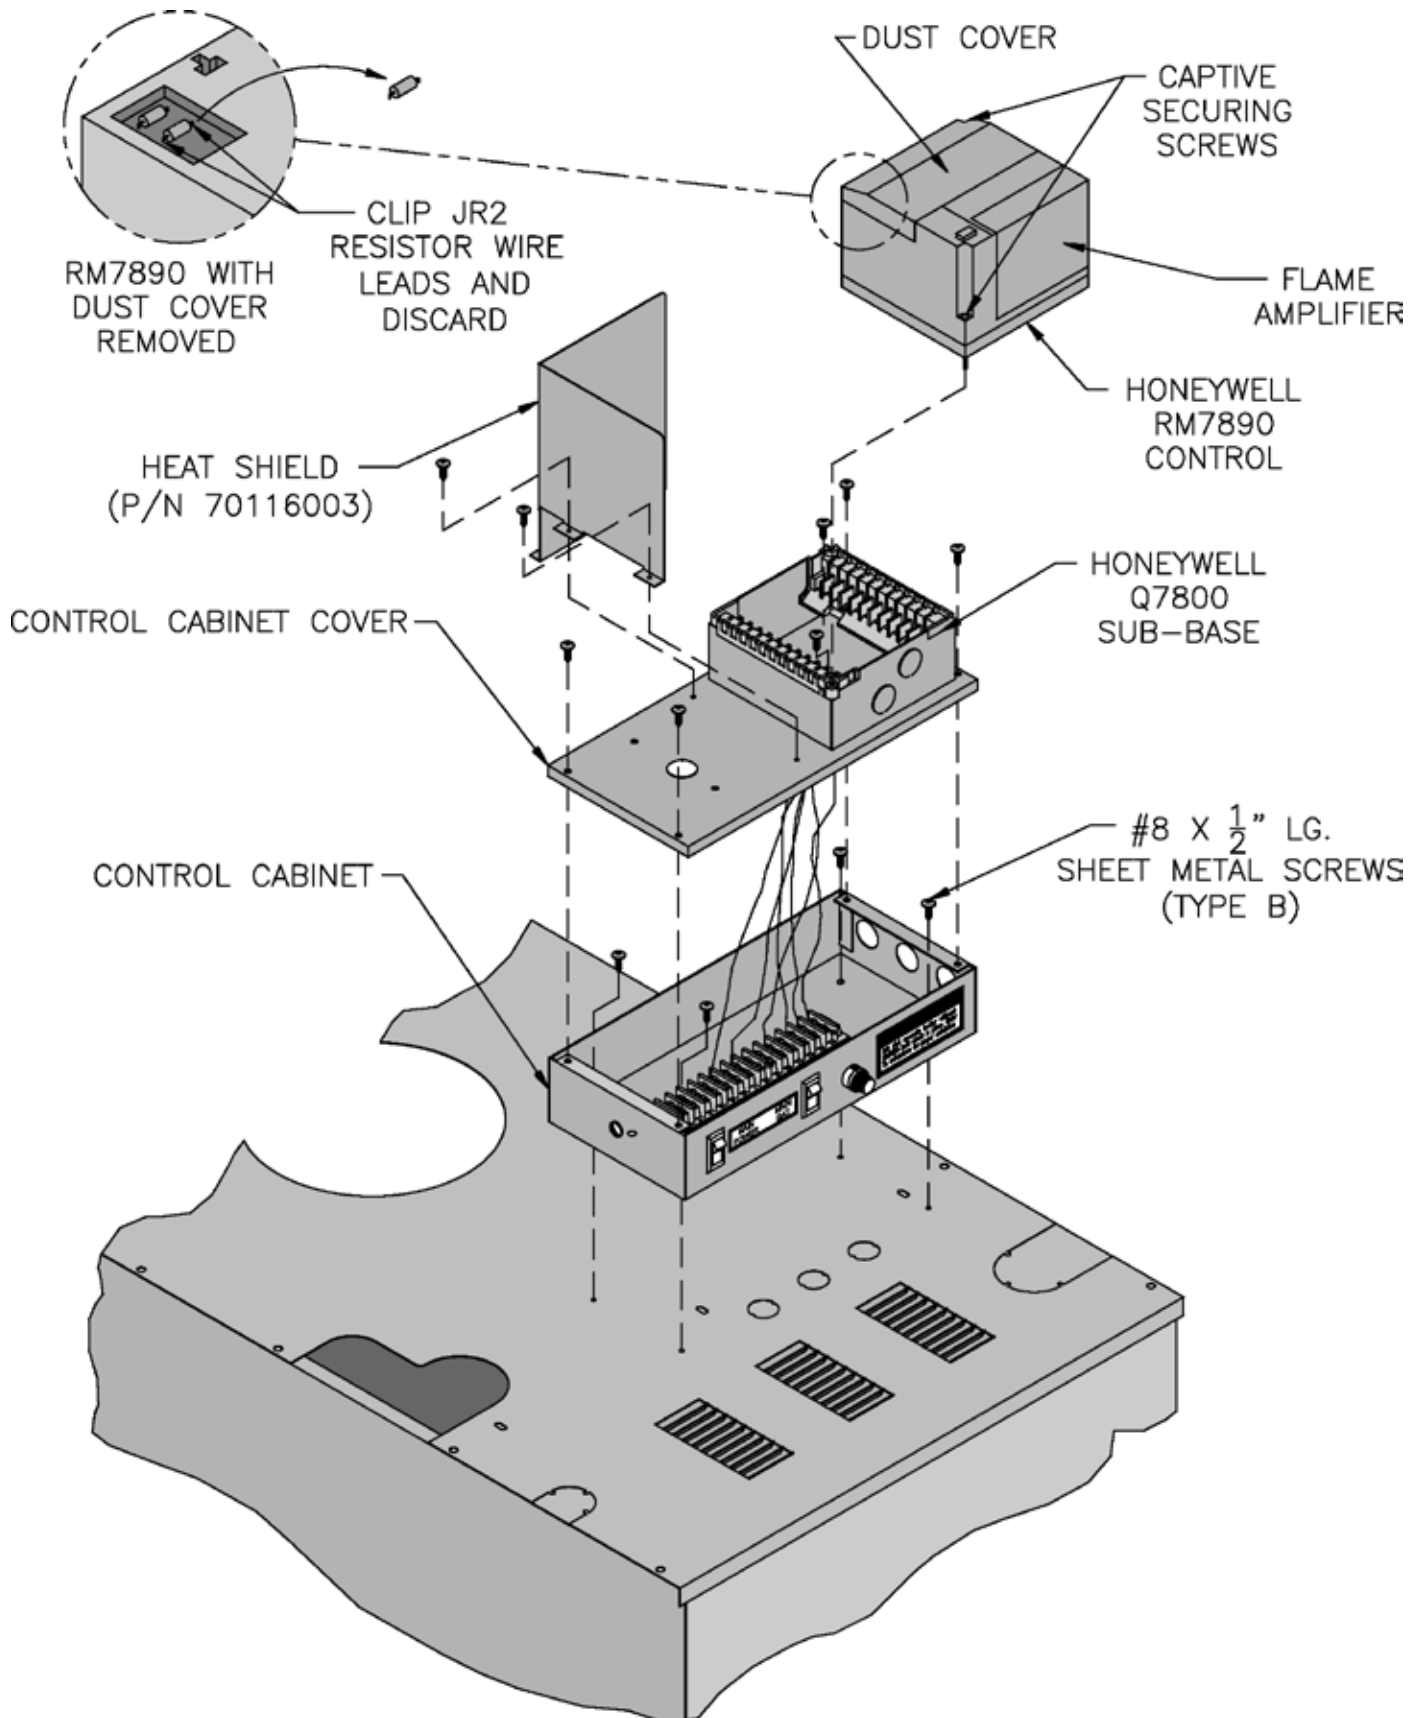

Figure 9: EP Control Installation
- T. EP System: See Figure 9.**